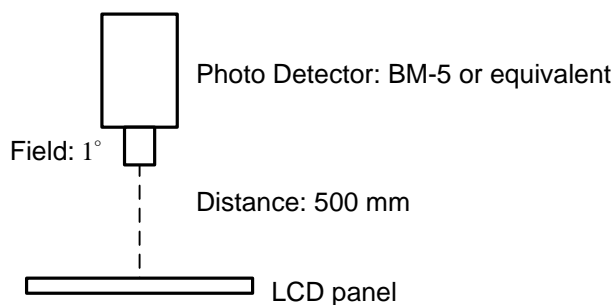

Fig. 6.1
- In the dark room around 100 lx, the equipment has been set for the measurements as shown in Fig 6.1.